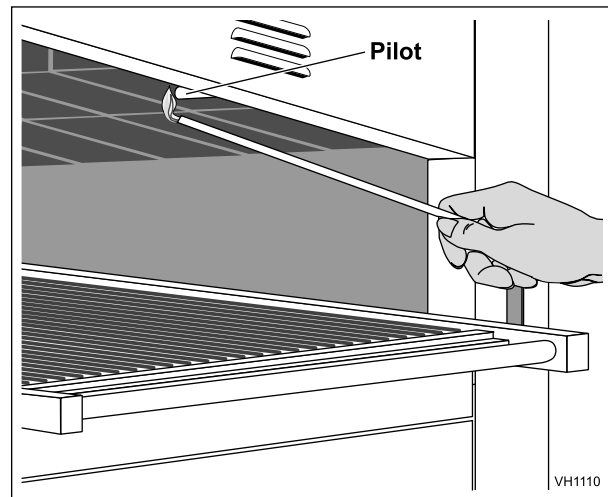

Figure 10
2. Turn the incoming main gas supply valve on. Light pilots through grate area by extending a taper to the pilot lighter tube up under the broiler area (Fig. 10).